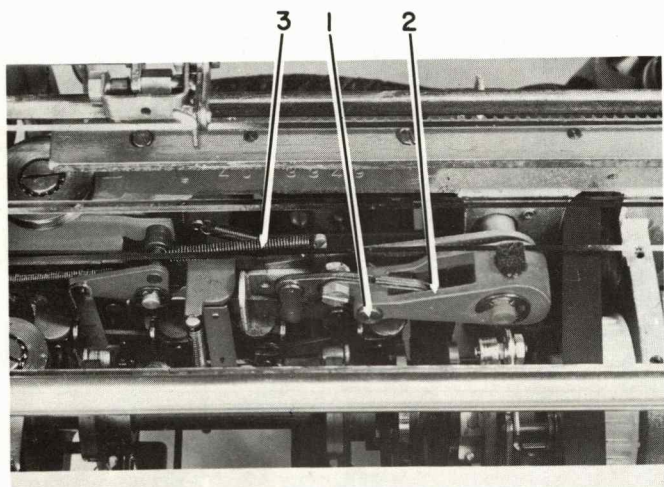

FIGURE 23. Rotate Selection Differential Removal
10. Remove the balance-arm mounting stud (#1, Figure 23).
11. Disconnect the minus-five bail drive link from the right end of the balance arm (#2, Figure 23).
12. Disconnect the tilt-differential spring (#3, Figure 23).